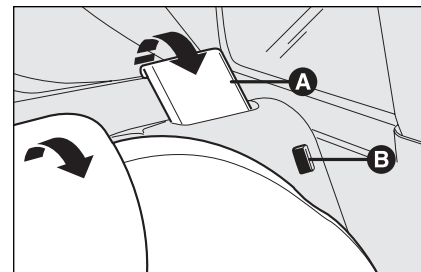

fig. 97
- ☐ lift seat back retaining lever **A-fig. 97** and tilt the seat back forward. Lever lifting is shown by a "red band" **B**.